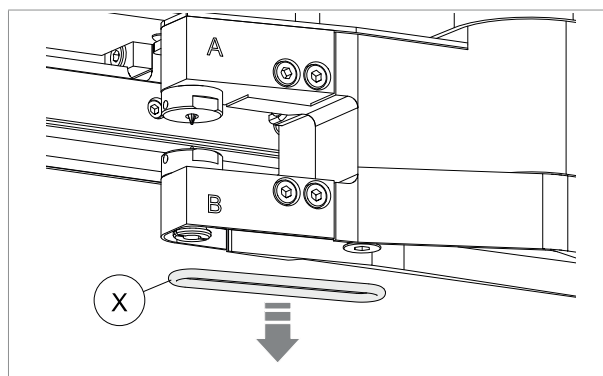
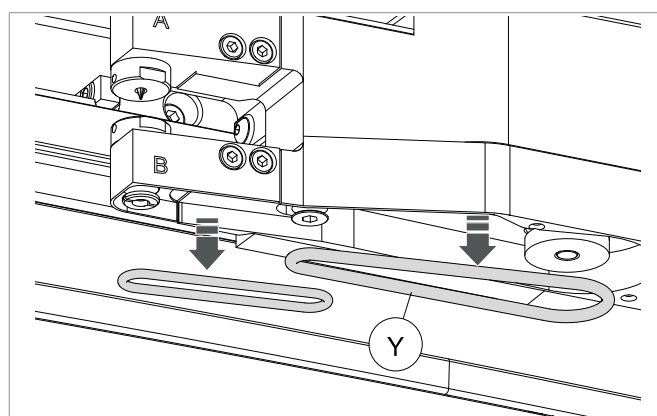

Fig. 156
Fig. 157
- 5) Remove the belt to be replaced (Fig. 156 or Fig. 157).